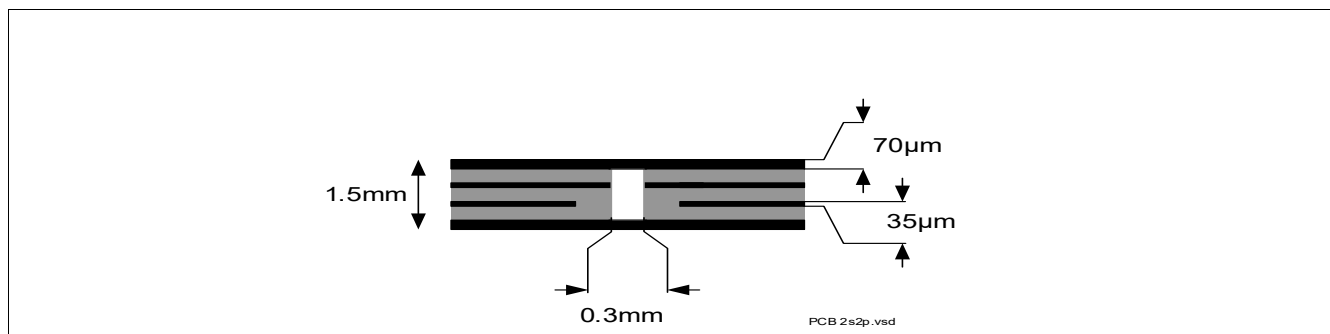

Figure 4 2s2p PCB Cross Section
2) Specified R_{thJA} value is according to JEDEC JESD51-2,-5,-7 at natural convection on FR4 2s2p board with 1 W power dissipation at $T_A=105^{\circ}\text{C}$; The product (chip + package) was simulated on a 76.4 x 114.3 x 1.5 mm board with 2 inner copper layers (2 x 7 μm Cu, 2 x 35 μm Cu). Where applicable, a thermal via array under the exposed pad contacts the first inner copper layer. Please refer to Figure 4.